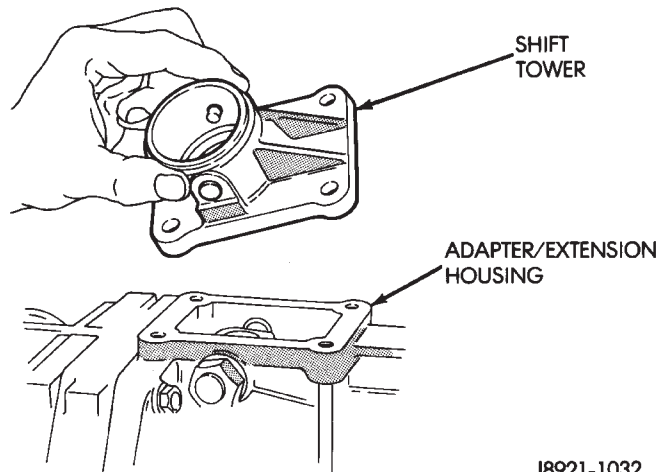
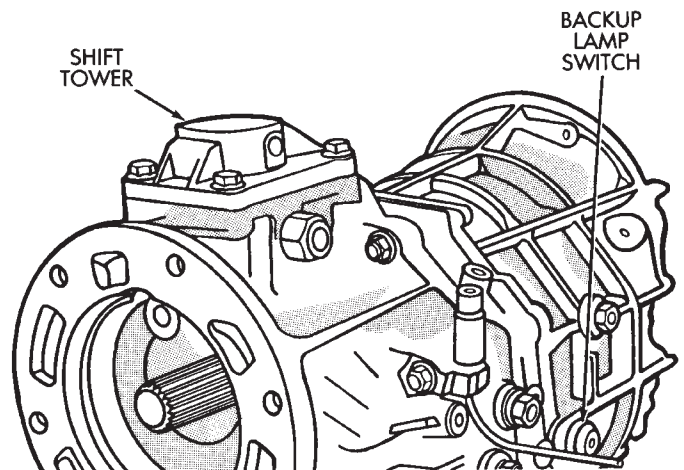

Fig. 47 Install Shift Tower
Fig. 48 Install Backup Lamp Switch
(19) Install shift tower gasket onto shift tower.
(20) Install the shift tower oil deflector and gasket onto the adapter or extension housing.
(21) Install shift tower onto transmission case (Fig. 47).
(22) Install bolts to hold shift tower to transmission case. Tighten tower bolts to 18 N·m (13 ft. lbs.) torque.
(23) Install new metal o-ring onto the backup lamp switch.
(24) Install backup lamp switch (Fig. 48). Tighten switch to 44 N·m (32.5 ft. lbs.) torque.